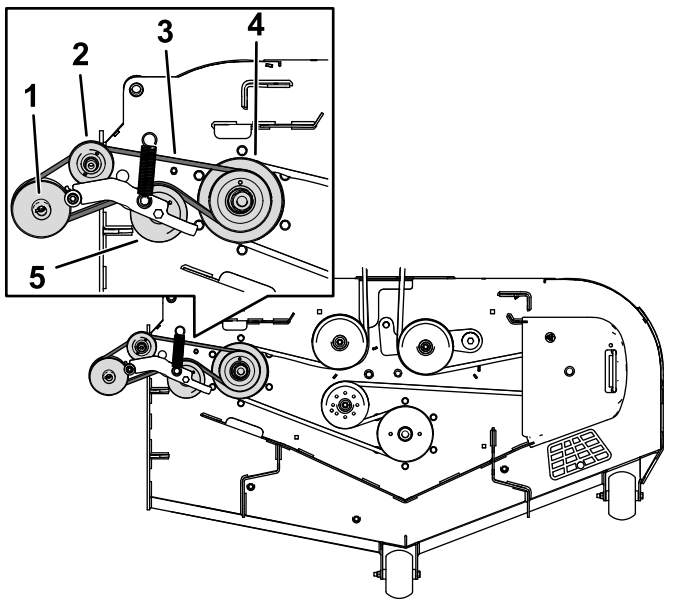

Figure 43
1. Arrange the blower belt around the drive pulley as shown in Figure 43.